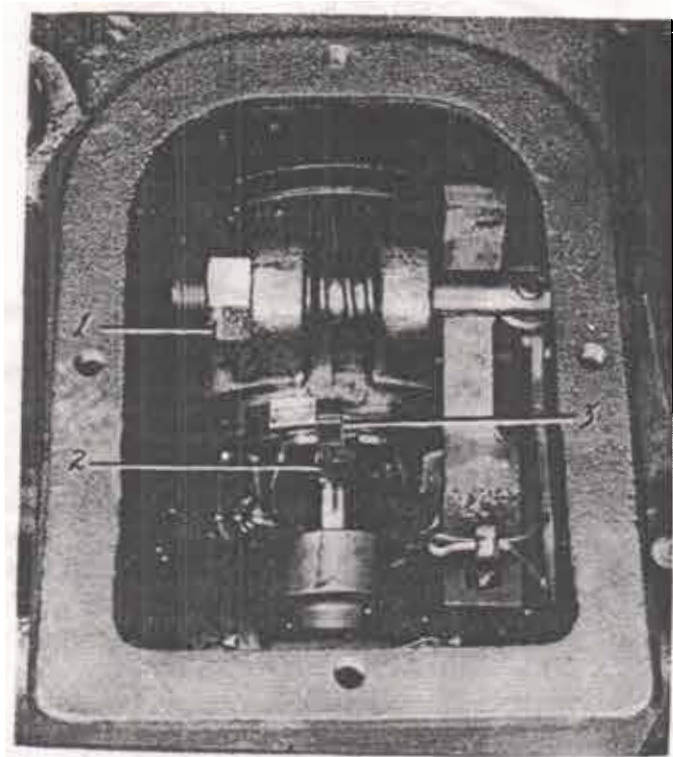

Fig.71 Reverse Gear - Adjustment - Joes Model
(2) Loosen the screw (2) which holds the clip (3) in the notches cut in the gear case housing until the clip can be lifted out of the notch. See Fig. 71.
(3) Turn the gear case cover clockwise one notch.
(1) Remove the reversing gear cover plate.
(2) Remove cotter pin and slack off adjusting nut (1). See Fig. 71.